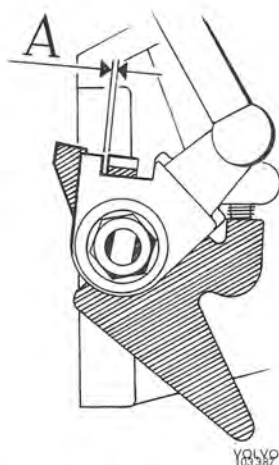

Fig. 2-76. Setting the control
0.1 mm (0.004") between the lever and the primary throttle spindle flange. See Fig. 2-76.
5. Adjust the link rods. With the control against its stop on the manifold bracket, the link rods should be adjusted so that there is a clearance of about 0.1 mm (0.004") between the lever and the flange of the primary throttle spindle. See Fig. 2-76.